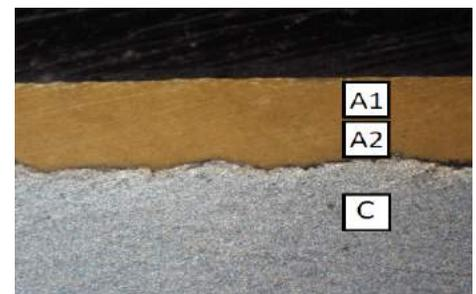

Figure 2 - Cross section of 2-coat epoxy coating on steel tank panel. Layers A1 and A2 are the two epoxy layers and layer C is the steel substrate panel.
**By comparison, Figure 2 is a cross section of a typical 2-layer epoxy coating on steel substrate.** The interface between the substrate and coating layers is very defined indicating no molecular interaction or fusing of the epoxy layers to the steel substrate. In contrast, the layers of the two epoxy coatings, A1 and A2, is indistinguishable showing that the two layers of epoxy have “fused” to themselves. Note also the cleanliness or how clean the layer is between the epoxy and the steel reflective of the mechanical preparation of the steel surface to clean bright finish and the lack of contamination of this layer.